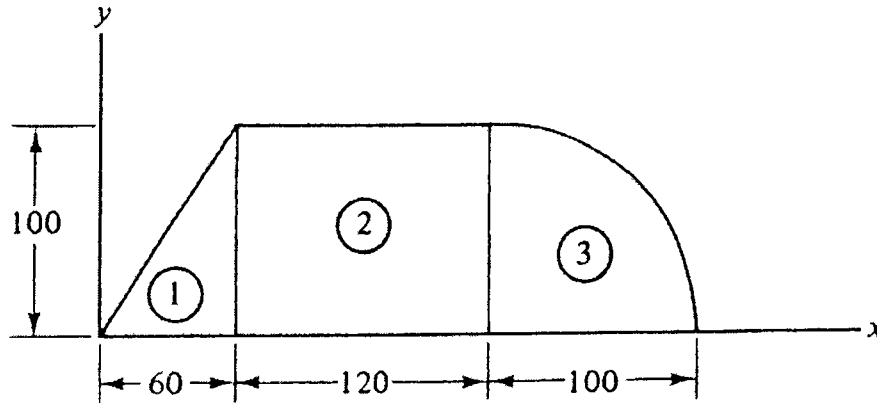

Figure Q3[b]
- [b] Figure Q3[b] shows a composite area that consists of sections 1, 2 and 3 where section 3 is of quarter circle shape.